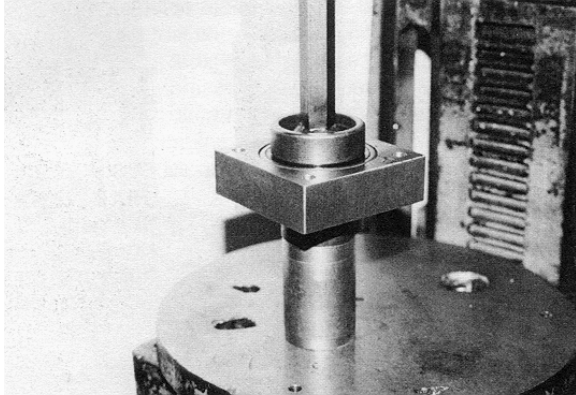

FIGURE 44
10) Clean the bearing journal area of the driveshaft with a suitable solvent. Apply a suitable amount of anaerobic adhesive/sealant to the bearing journal area of the driveshaft. Press the driveshaft into the bearing housing until it seats against the bearing. FIGURE 44.